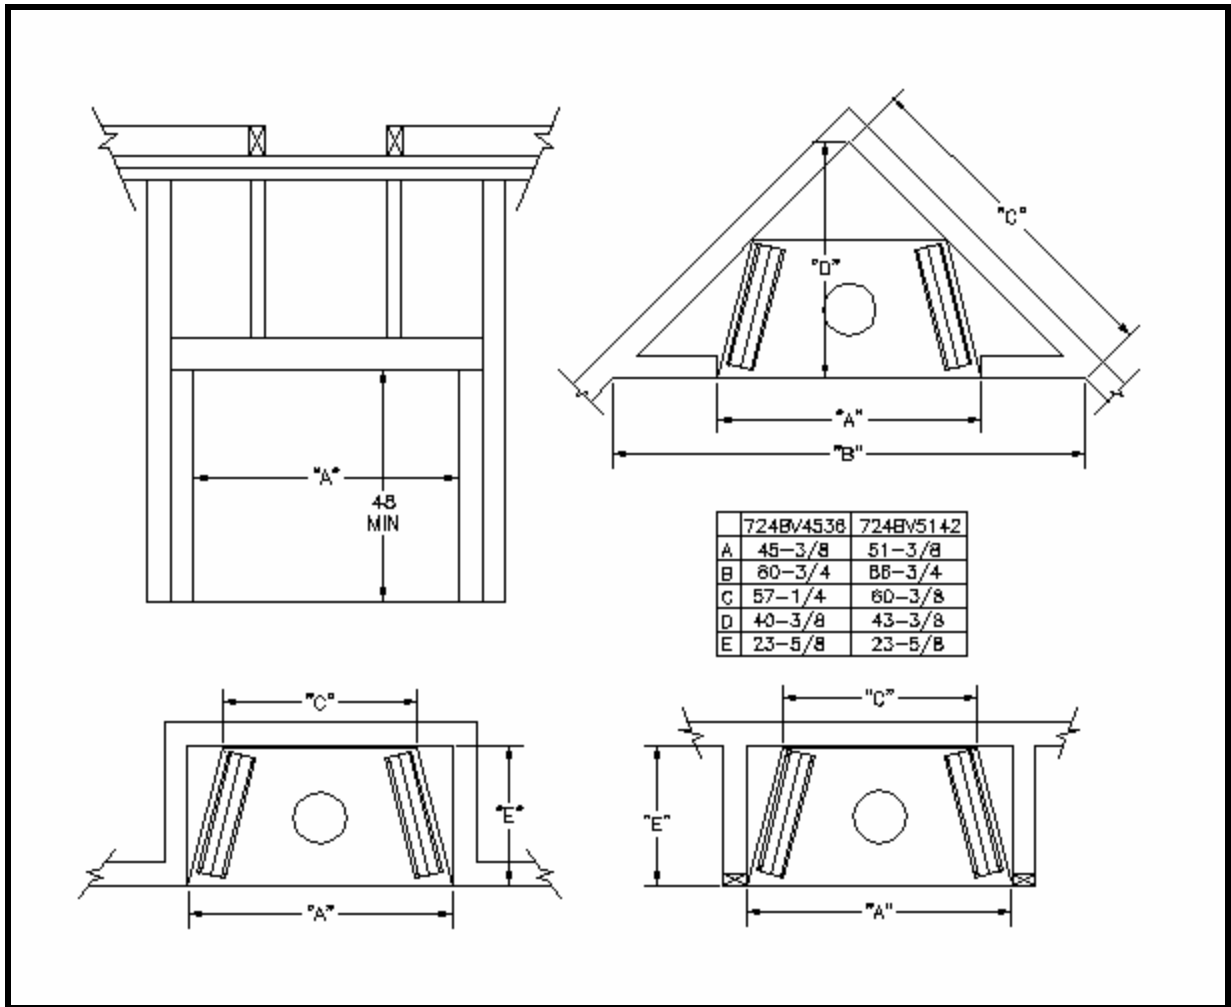

Figure 2: Fireplace Locations and Minimum Clearance Requirements
- This fireplace may be installed along a wall, across a corner, or use an exterior chase. Refer to Figure 2 on page 6 for suggested locations.